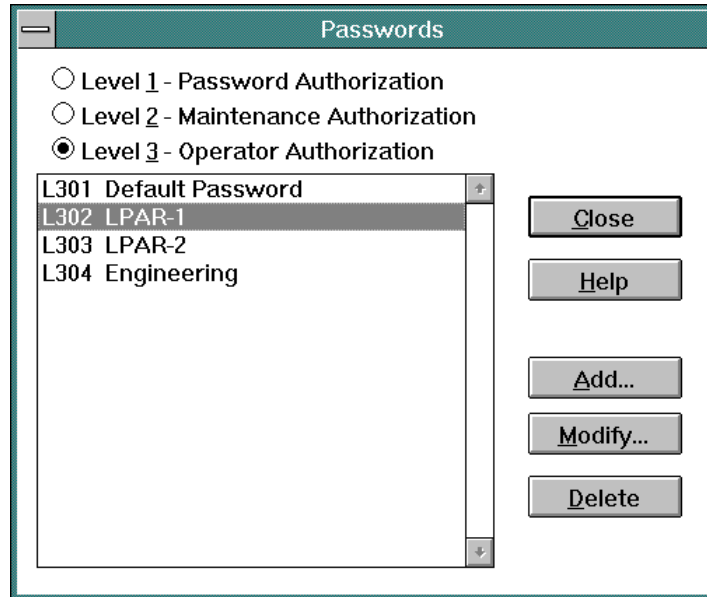

Figure 10-2. Passwords Dialog Box
2. Type an administrative authorization password (default is **LEVEL001**) and click the *OK* button. The *Passwords* dialog box appears (Figure 10-2). The dialog box provides a radio button selection for each password level.
2. Type an administrative authorization password (default is **LEVEL001**) and click the *OK* button. The *Passwords* dialog box appears (Figure 10-2 on page 10-4). The dialog box provides a radio button selection for each password level.